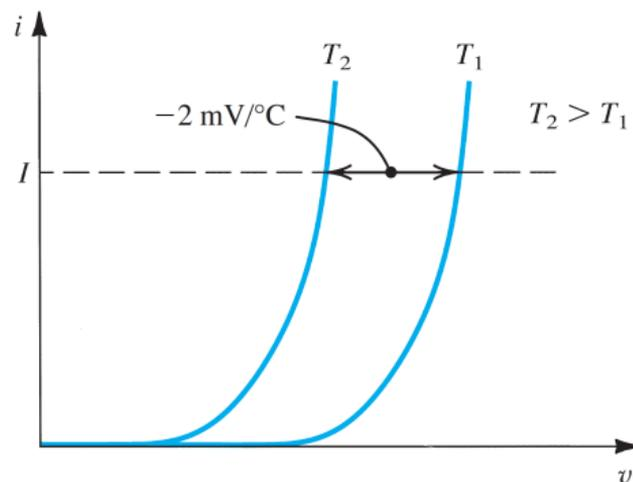

FIG 2. Diode temperature dependence
- Since both I_S and V_T are functions of temperature, the forward i - v characteristic varies (as shown in Fig. 2)